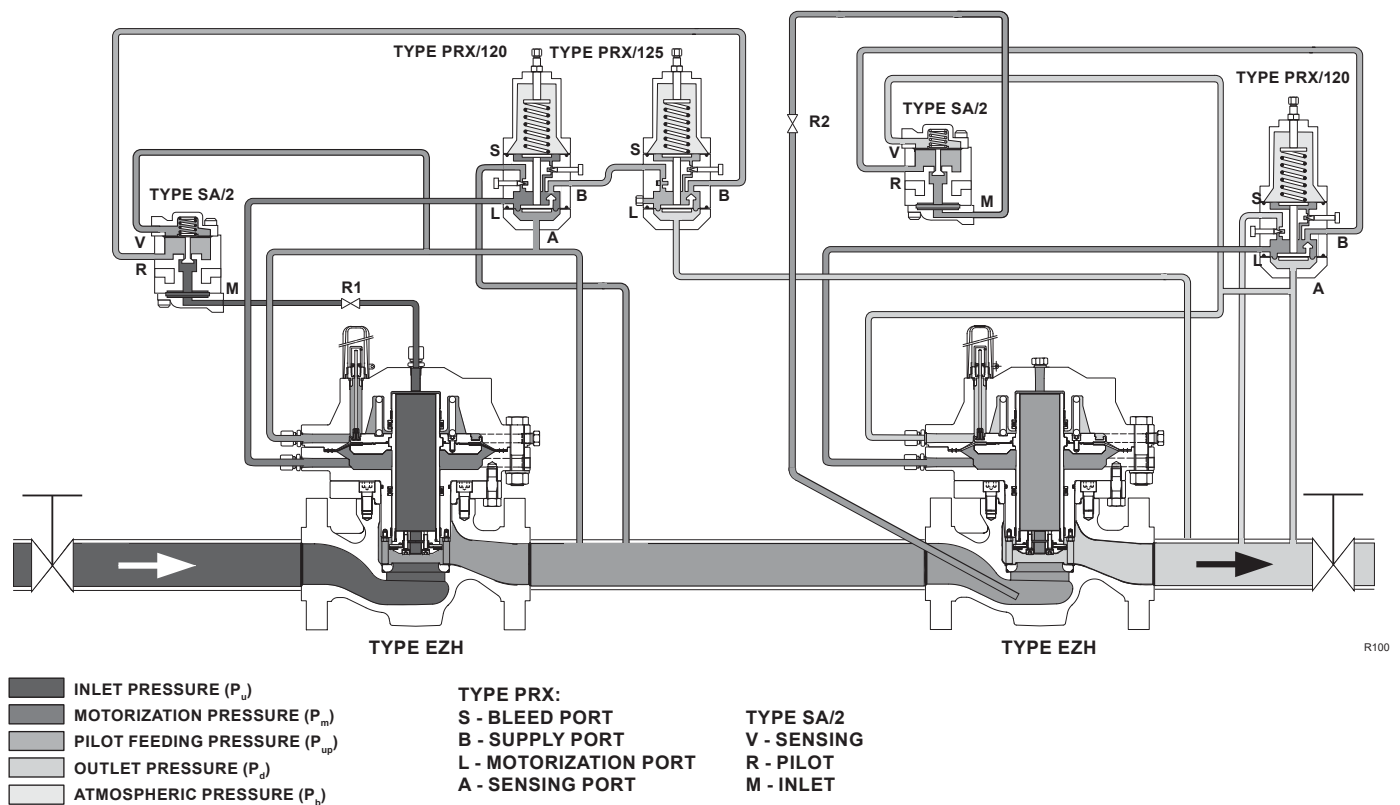

Figure 14. Working Monitoring System Operational Schematic with Two EZH (Spring-to-Close) for DN 25, 50 and 80
Working Monitor System with Type PRX Pilot (Figure 14)
The schematic from Figure 14 represents the configuration for the DN 25, 50 and 80, for the DN 100, 150 and 200 the schematic remains the same with the remark that a check valve (Figure 28) must be installed between outlet pressure and loading pressure impulse lines of the regulator and working monitor as well.
1. Follow the procedure in the All Installations section and then continue with step 2 of this section. The sense line of the upstream monitor pilot and the bleed and sense lines of the downstream pilot will be connected to the downstream piping (see Figure 14).